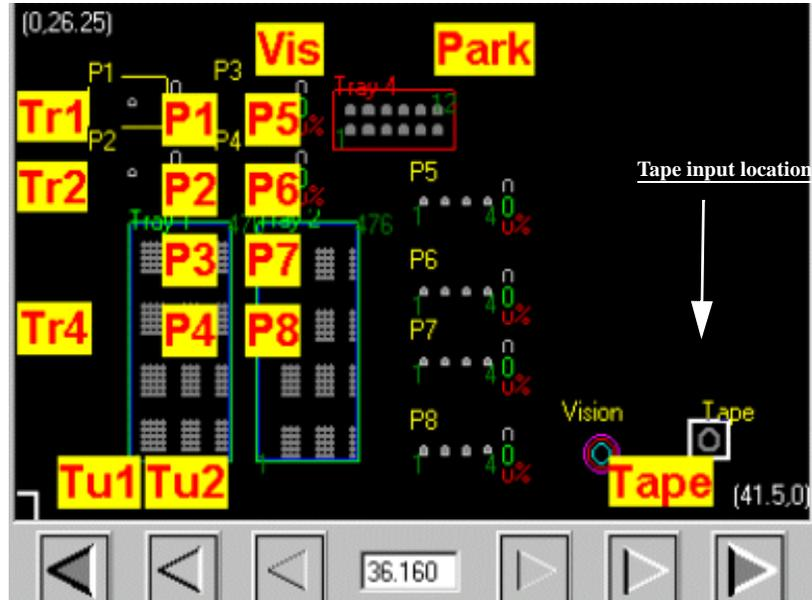

Figure 6-83—Move PNP head to Tape input location
- 1a) From the Gantry window, move the PNP head to the front of the work envelope so it can be easily reached. The Tape input location works well. See *Figure 6-83*.